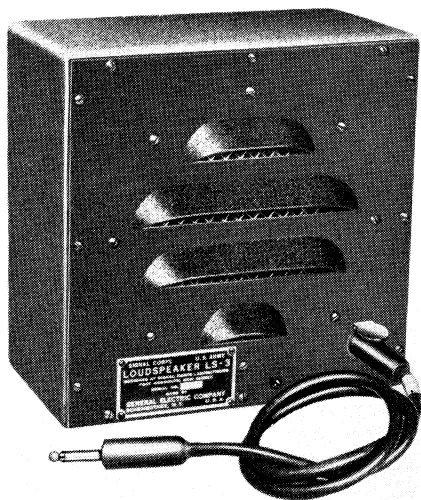

Figure 25. Loudspeaker LS 3 with Cord CD-267.
e. LOUDSPEAKER LS-3 (fig. 25). This is a permanent-magnet type loudspeaker, housed in a steel case. Included as part of this loudspeaker is a transformer, mounted inside of